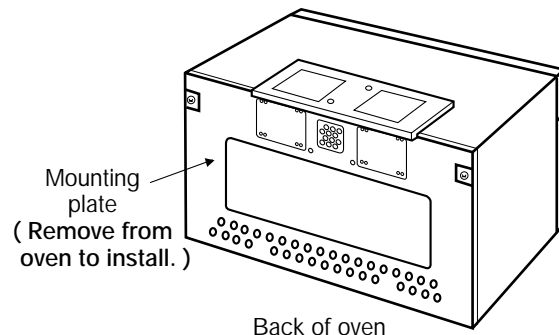

Figure 2
- Mounting plate is located on back side of microwave oven. See Figure 2.